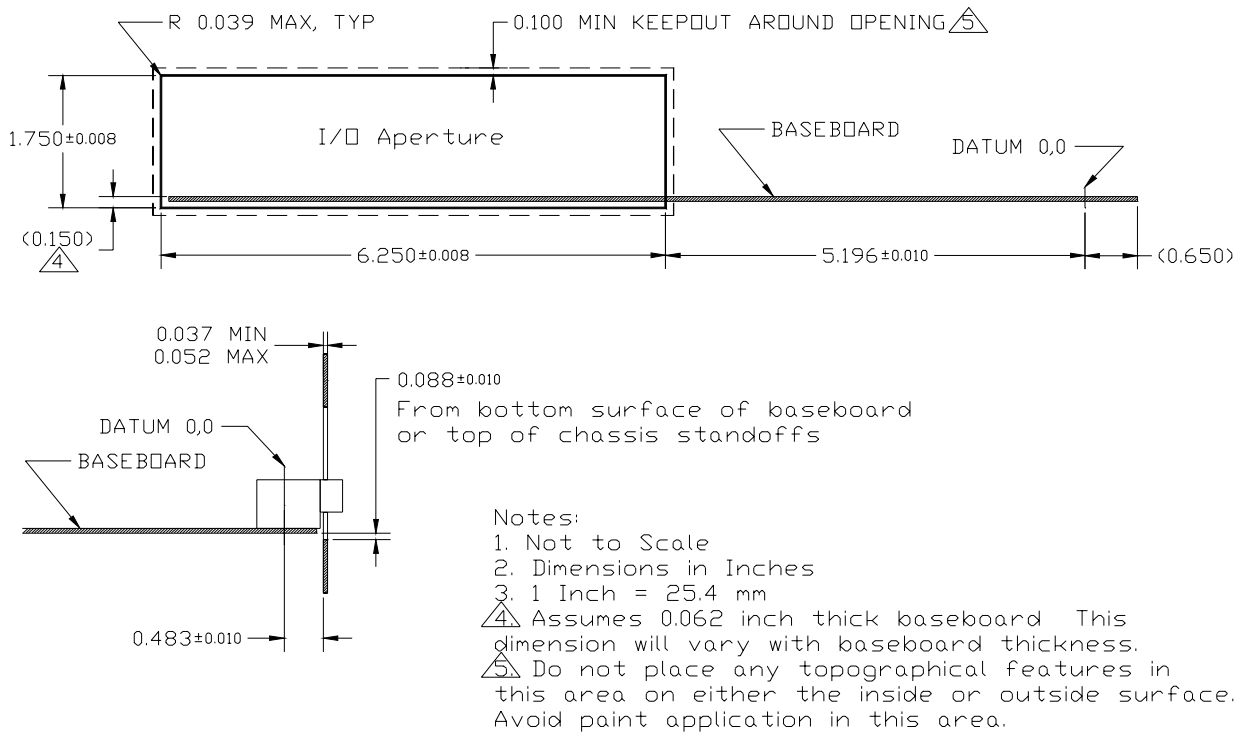
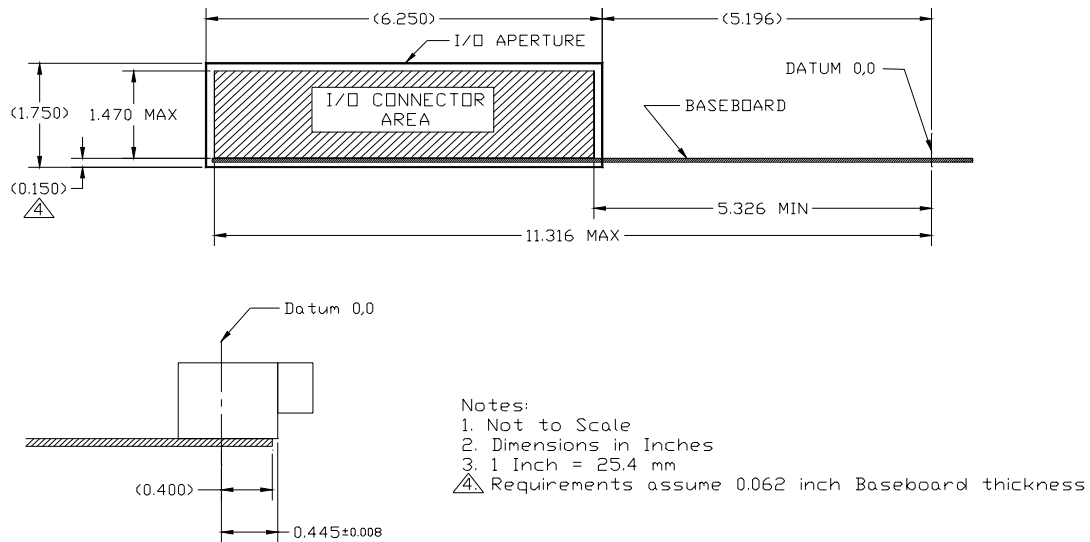

Figure 4. Chassis Back Panel I/O Aperture Requirements
Figure 5. Motherboard I/O Connector Zone Recommendation
As shown in Figure 4, the bottom of the back panel opening is located 0.150" (3.81mm) below the top of a typical, 0.062" (1.57 mm) thick motherboard. Also, a 0.1" (2.5 mm) keepout zone has been defined around the perimeter of the cutout area, on both the inside and outside surfaces of the chassis back panel. This required keepout zone provides a reserved space that can be used to clip a chassis-independent I/O shield to the chassis back panel. No slots, tabs, notches, or other topographical features should be placed within the keepout zone. If a feature violates the keepout zone, the chassis loses the opportunity to support an I/O shield that can be designed to fit all ATX chassis that meet the specifications listed below and detailed in Figures 4 and 5. For best EMI attenuation performance, paint should not be applied within the keepout area as it can prevent proper grounding of the I/O shield. Also, motherboard connector placement must be limited as shown in Figure 5 to allow enough clearance between the connectors and chassis opening for the I/O shield structure.
- Nominal cutout size = 6.25" (158.75mm) by 1.75" (44.45mm). See Figure 4 for tolerances.
- Distance from top of a typical 0.062" (1.57 mm) motherboard to bottom of I/O cutout hole = 0.150" (3.81mm) (Figure 4).
- Allowable thickness of a chassis back panel that the I/O shield can clip into is in the range 0.037" (0.94mm) to 0.052" (1.32mm) (Figure 4).
- The corners of the I/O aperture can be rounded to a maximum radius of .039" (0.99mm) (Figure 4). This allowable rounding of the corners helps case manufacturers extend the life of their hard tooling while still complying with the specification.
- The 0.1" (2.5mm) keepout zone around the I/O aperture area is required in an ATX 2.1-compliant chassis (Figure 4). This allows ATX 2.1-compliant I/O shields to fit into ATX 1.1 or 2.1-compliant cases. The keepout area is needed for the shield attachment points. Avoid paint application in this area.
- The face of all I/O connectors should be placed 0.445" (11.30mm) from the reference datum and remain within the zone defined in Figure 5.
Figure 5 specifies the I/O connector zone. Compliance with this recommendation is necessary to ensure enough clearance between the chassis aperture and motherboard connectors for the I/O shield structure. This recommendation may be waived if the shield provided with the motherboard requires less than the recommended clearance. To retain maximum flexibility, the exact positioning of connectors within the I/O connector zone is left to the discretion of the motherboard designer.